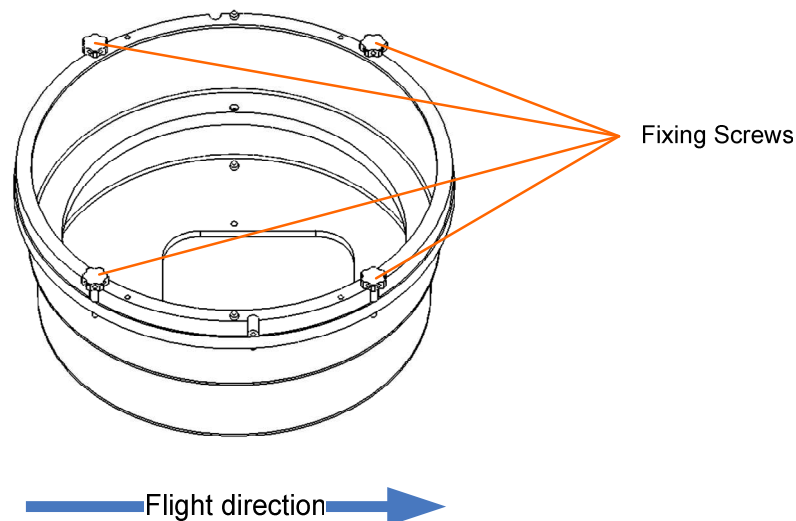

Figure 1.1: Mass-compensator housing.
- Mount mass-compensator housing on stabilized platform guiding by “Flight Direction” sign. Be sure that flanges on the moving ring coincide with slots on the mass-compensator housing. Fix it with four fixing screws. (Figure 1.1)